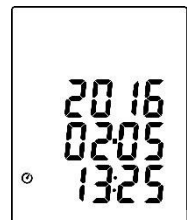

Fig.22
(1) Press the  or  button to select year, date, or time. (see Fig.22)
(2) Press the  /  button to increase / decrease value.